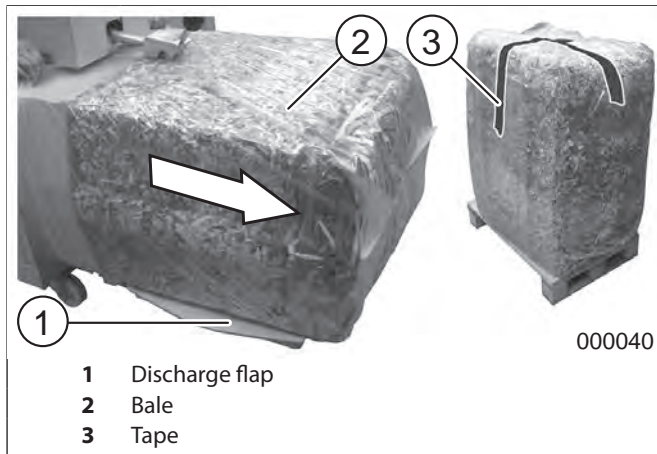

fig. 21 Ejecting the bale
3. Press and hold the "Advance Ram" key (fig. 13/1). The completed, tied off bale is ejected into the plastic sack and is pushed onto the discharge flap (fig. 21).
5. Fold the end of the sack together and seal with tape (fig. 21/3). The bale can now be removed.
2. Press the bale into the plastic sack and onto the discharge flap (fig. 21) by activating the "Advance Ram" key (fig. 13/1).
3. Fold the end of the sack together and seal with tape (fig. 21/3). The bale can now be removed.